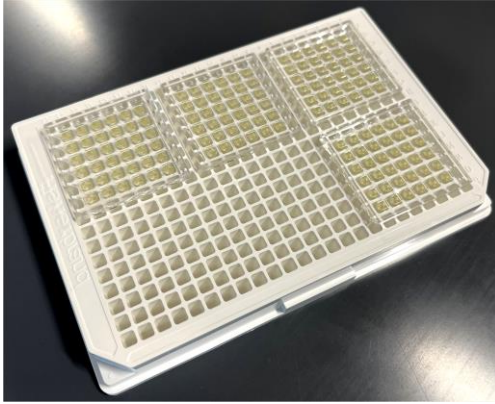

Figure 1. The four 36PillarPlates with spheroids/organoids inserted onto the opaque white 384-well plate containing the diluted CellTiter-Glo reagent.
5. Separate the 36PillarPlate from the 384DeepWellPlate, insert it onto the opaque white 384-well plate containing the diluted CellTiter-Glo reagent, and incubate for 30 - 45 minutes at room temperature on an orbital shaker at 80 rpm in the dark to ensure the complete lysis of the organoids (**Fig. 1**).